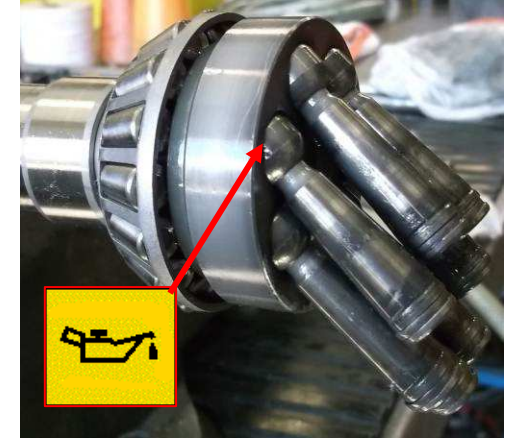

Fig.6.
- 7 - Put some hydraulic oil into the piston head seats and install the 7 pistons on the drive shaft. Insure a smooth rotation for each piston. Look at Fig.6.